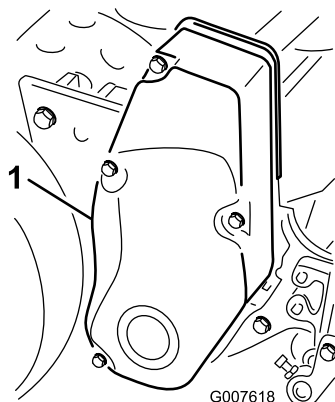

Figure 35
1. Remove the belt cover mounting fasteners and belt cover to expose the belt (Figure 35).